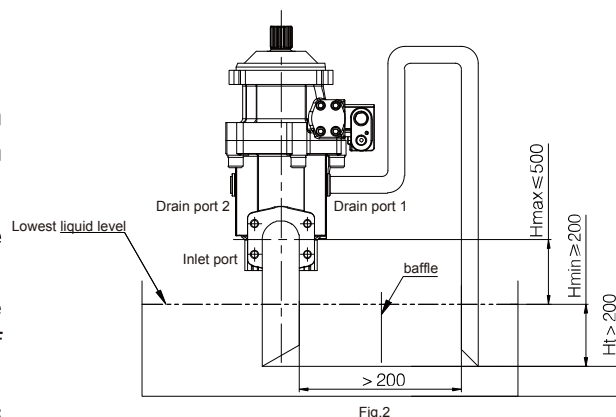

Fig.2
- When the minimum fluid level is lower than the pump mounting flange area, blocked Drain Port 2; piping Drain Port 1 and pump suction port, see Fig. 2.
- Install pump on the top of oil tank, in both static and dynamic situation the pump suction pressure should $> 0.8\text{ bar}$. see Fig. 2.